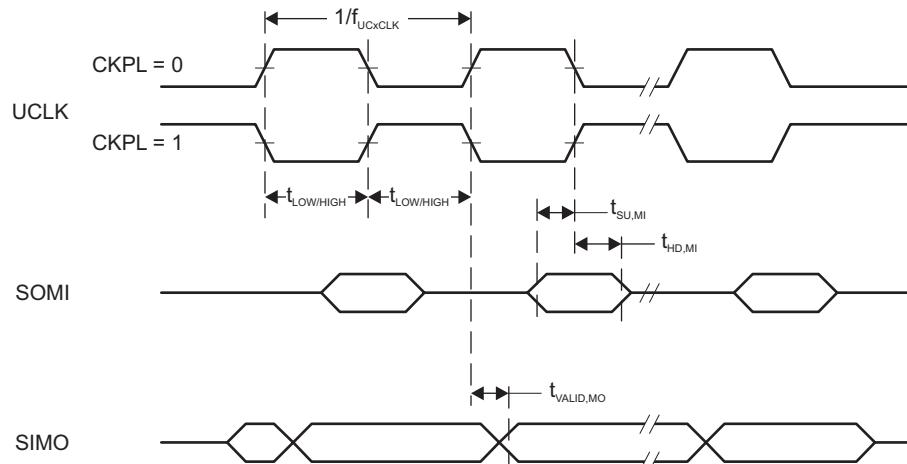
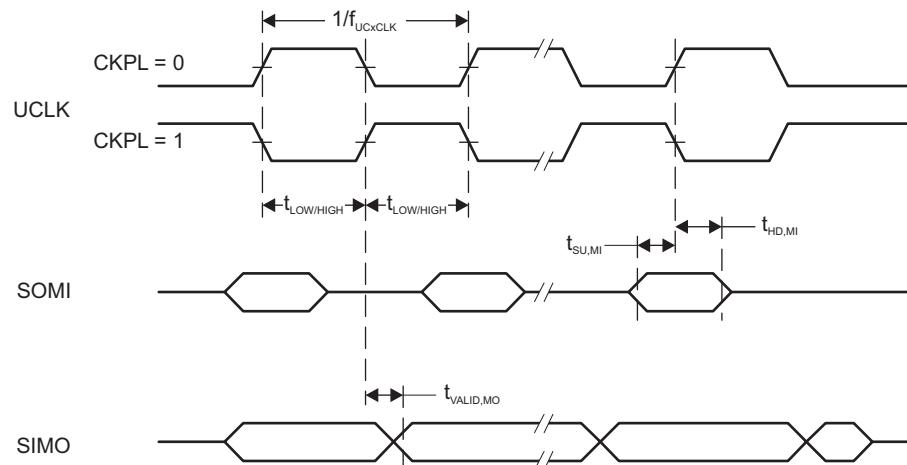

Figure 5-12. SPI Master Mode, $\text{CKPH} = 0$
Figure 5-13. SPI Master Mode, $\text{CKPH} = 1$
(2) Specifies the time to drive the next valid data to the SIMO output after the output changing UCLK clock edge. See the timing diagrams in Figure 5-12 and Figure 5-13.
(3) Specifies how long data on the SIMO output is valid after the output changing UCLK clock edge. Negative values indicate that the data on the SIMO output can become invalid before the output changing clock edge observed on UCLK. See the timing diagrams in Figure 5-12 and Figure 5-13.